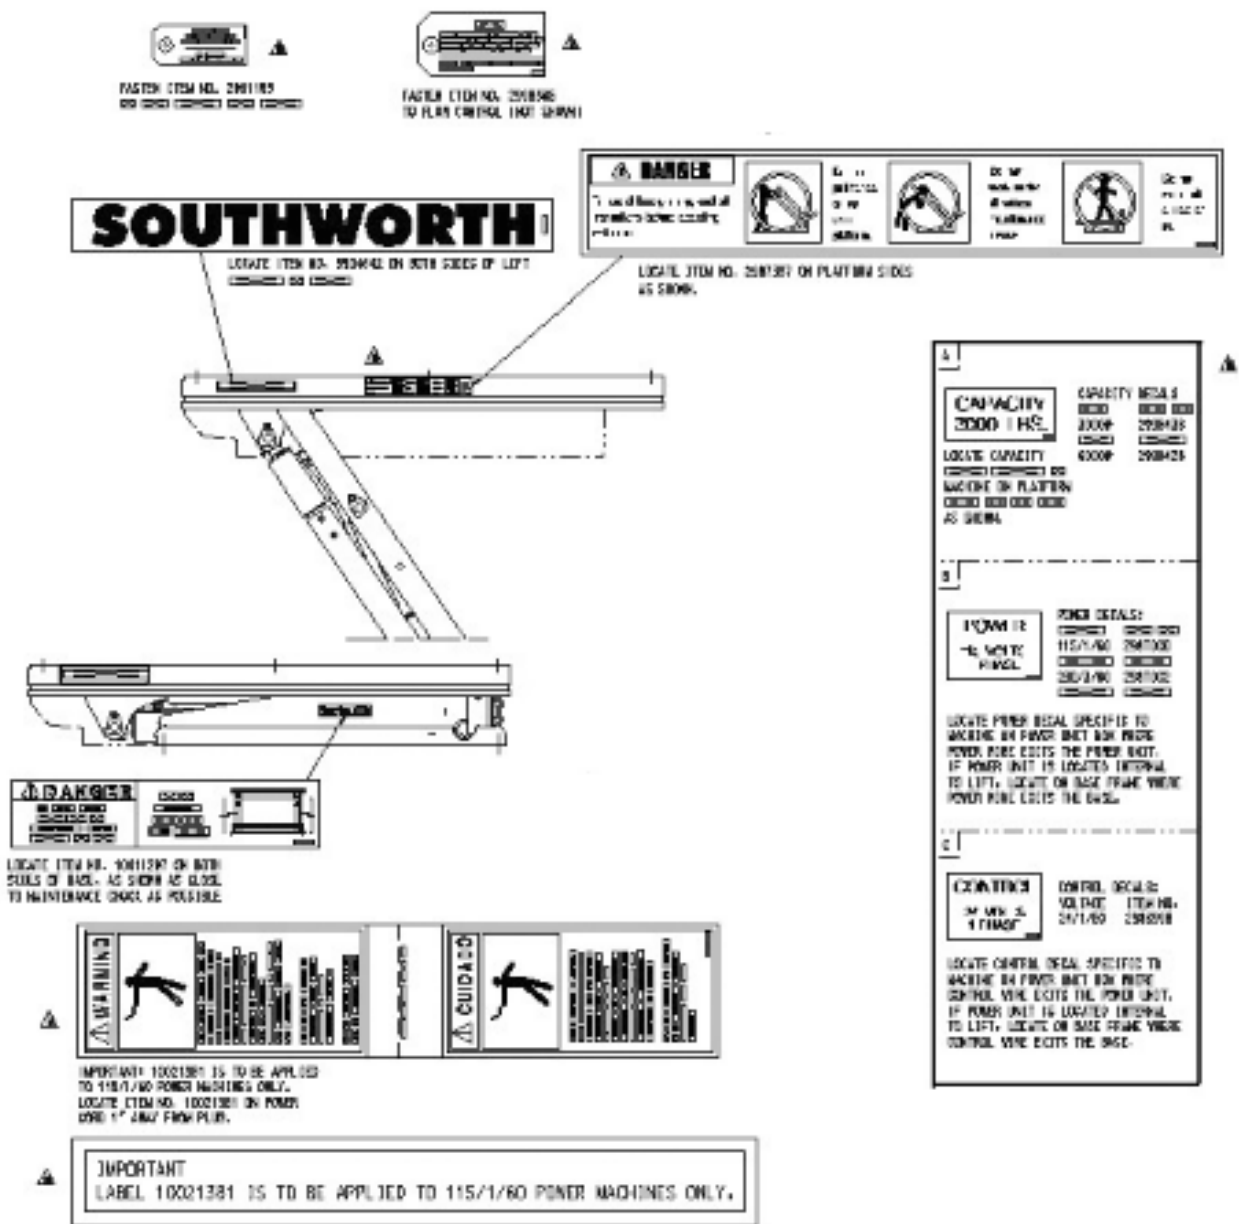

Fig. 1 Labels and Precautionary Markings (Side View)
3. Remove the maintenance device(s) from its/their storage location and place it/them into the engaged position as shown in Figure 1. (Note: further infor-
On the front of this manual, write down the model number, serial number, and date the unit is placed in service. Figure 1 shows the location of the name plate.